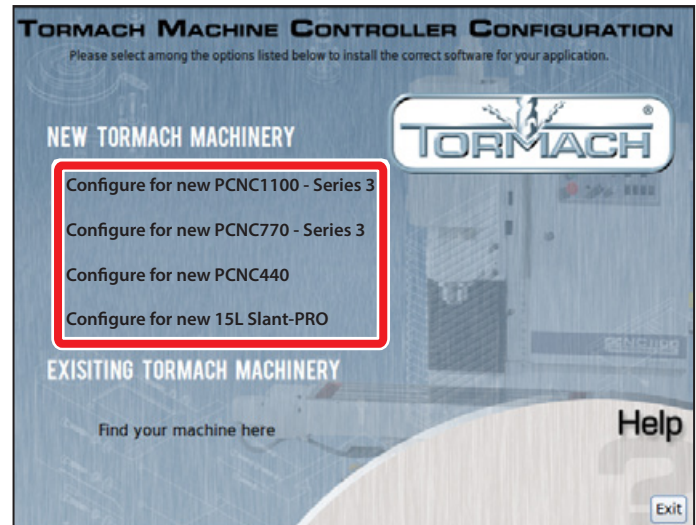

Figure 2
3. Select the machine-specific controller configuration option from the menu choices (see **Figure 2**).